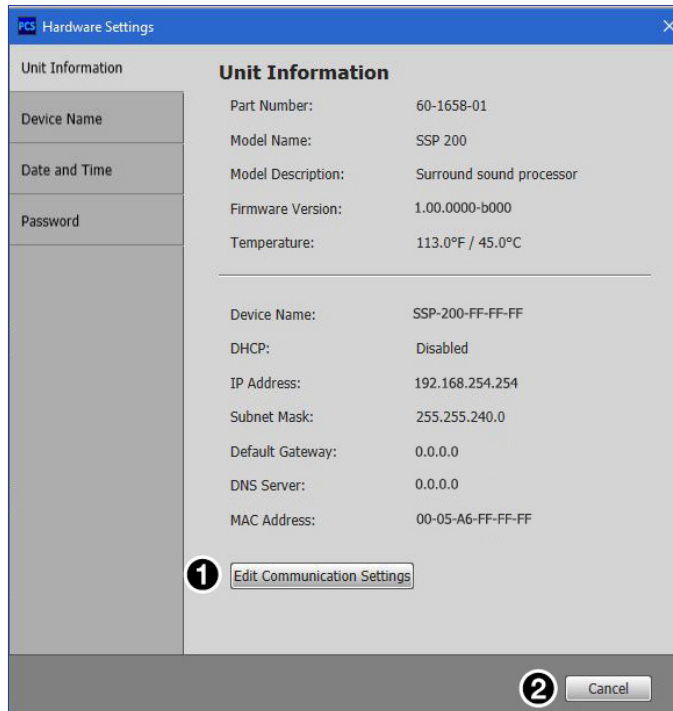

Figure 47. Hardware Settings: Unit Information
The Unit Information panel gives a non-configurable view of information about the connected device (see figure 47 on the next page).
Click the **Edit Communication Settings** button (see figure 47, ⑥, on page 53) on the **Hardware Settings** panel to open the **Communication Settings** dialog box.